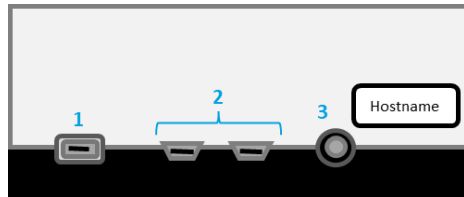
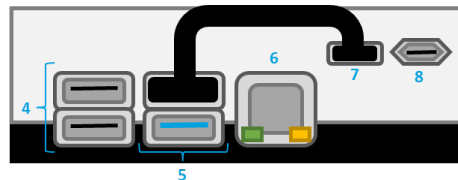

Figure 2.2: QPG7015M Development Kit front view
Figure 2.3: QPG7015M Development Kit right view
1. **Terminal over serial:** Connect the microUSB cable to port 8 shown in figure 2.3 and to your computer. Install putty for Windows or for Linux:
2. **Secure SHell (SSH):** Connect the QPG7015M DK to your local area network using an ethernet cable on port 6, shown in figure 2.3 and apply power to port 1 shown in figure 2.2. From a computer that has an SSH client application installed the QPG7015M DK can be accessed over SSH by running from a command prompt (Windows) or terminal (Linux):
The hostname can be found on the casing as depicted in figure 2.2. The username of the QPG7015M DK is *pi*, the password is *raspberry*. If for some reason the hostname cannot be accessed over ethernet, this is an option to retrieve the IP address running:
3. **Keyboard and screen:** Connect a USB keyboard to port 4 or 5 shown in figure 2.3 and attach a screen to a HDMI micro port 2 shown in figure 2.2. Please ensure the screen is connected before applying power to the QPG7015M DK. The user of the QPG7015M DK is *pi*, the password is *raspberry*.
In general we recommend to always attach an ethernet cable to port 6, shown in figure 2.3.